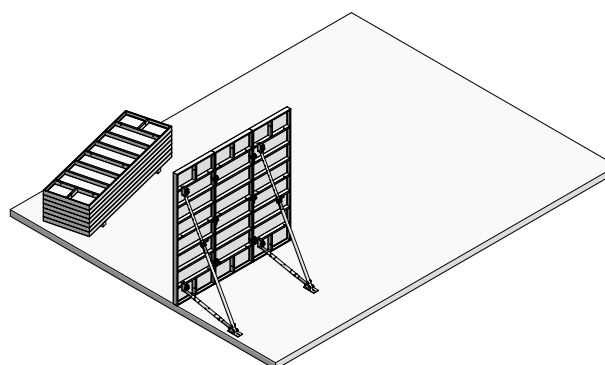

Fig. 5.1
2. Place the first panel and immediately attach it to the ground or concrete slab with two brace frames to prevent it falling over (Fig. 5.1). The foot plate must be firmly connected to the ground or concrete slab – in earth with two ground pegs, in concrete with two heavy-duty dowels. After placing vertical panels, always reinforce them immediately with push-pull props or brace frames so they can withstand tensile and compressive forces and are protected against displacement and wind. The prop spacing is determined by the application (see page EA-17).